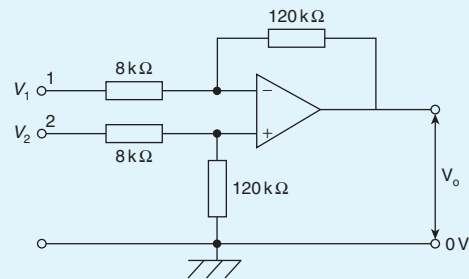

Figure 19.21
5. In the differential amplifier shown in Fig. 19.21, determine the output voltage,